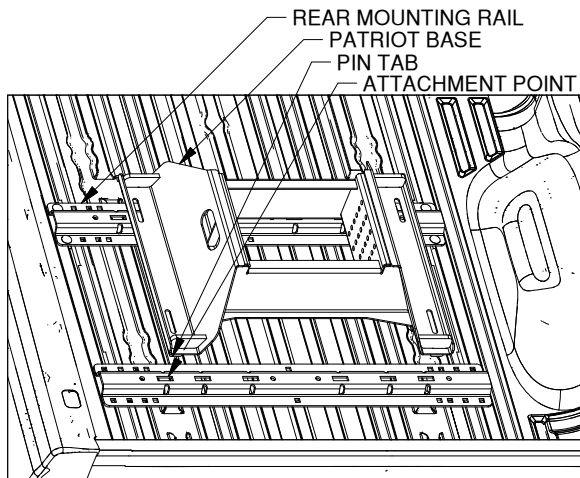

Figure C3: View into truckbed looking towards tailgate.
1. **Position the forward mounting rail.** For this step the base which will be used in the mounting rails is required. Place a mounting rail into the truck bed in front of the rear mounting rail. Place the base over the rail attachment points and carefully lower it until the pin tabs pass through the attachment points on the rear mounting rail. Attach the forward mounting rail to the forward mounting points on the base. The base should rest flat against the top of the rails, See figure C3. With the base still attached ensure that the forward rail is centered in the truck bed.